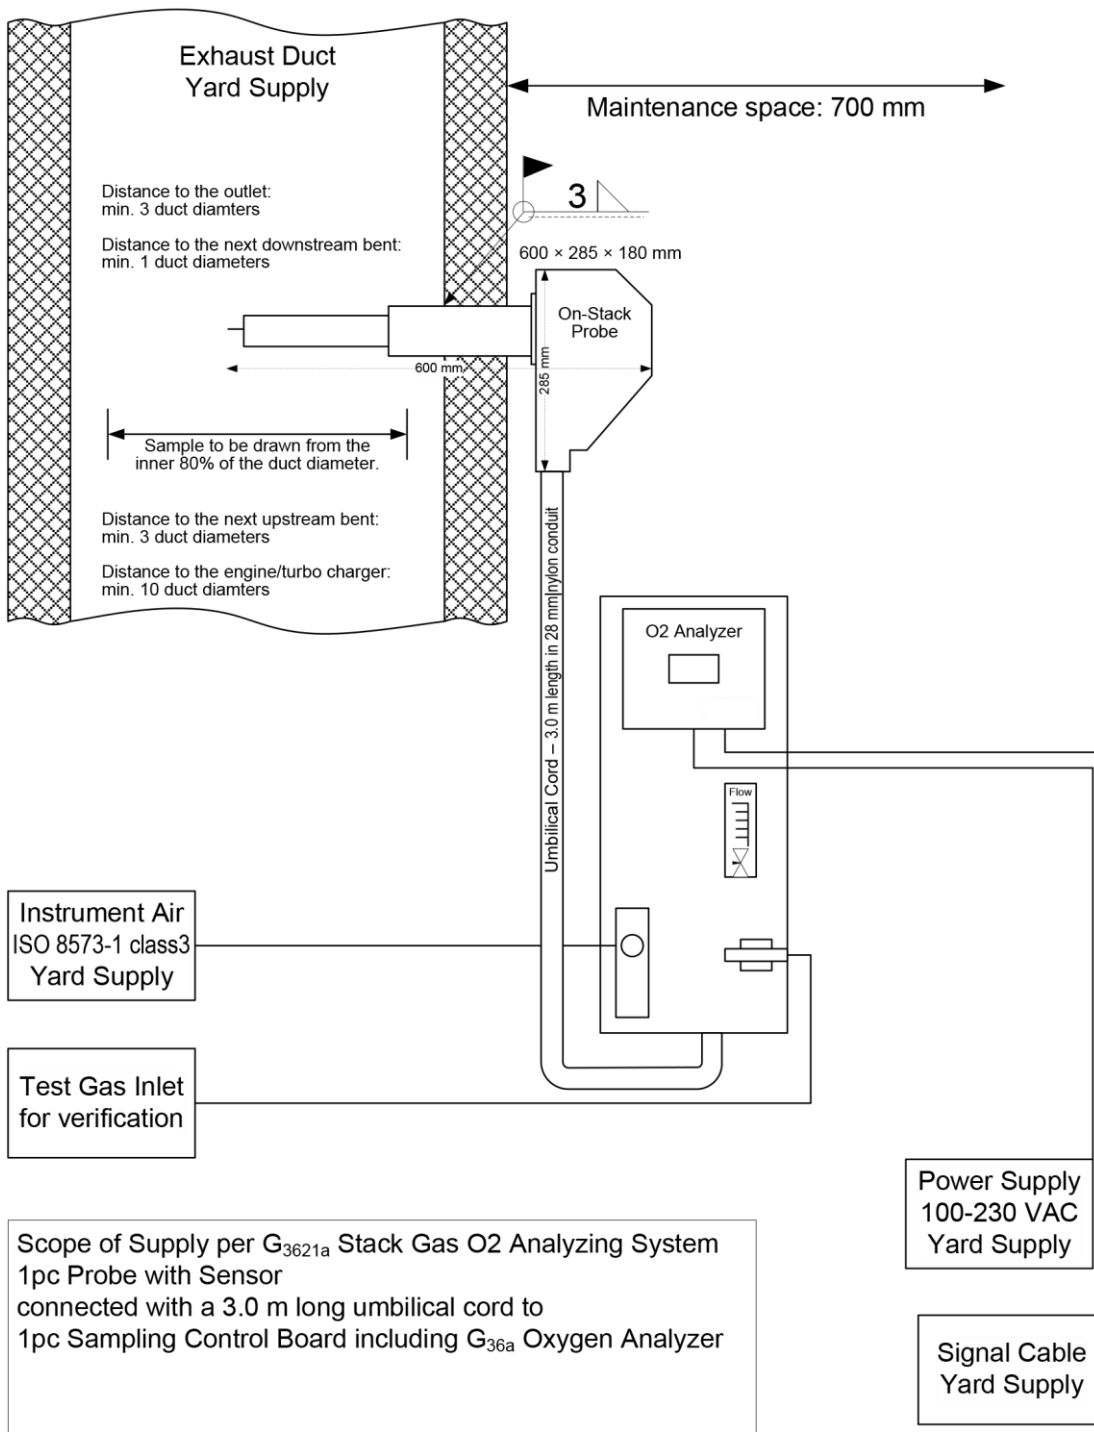
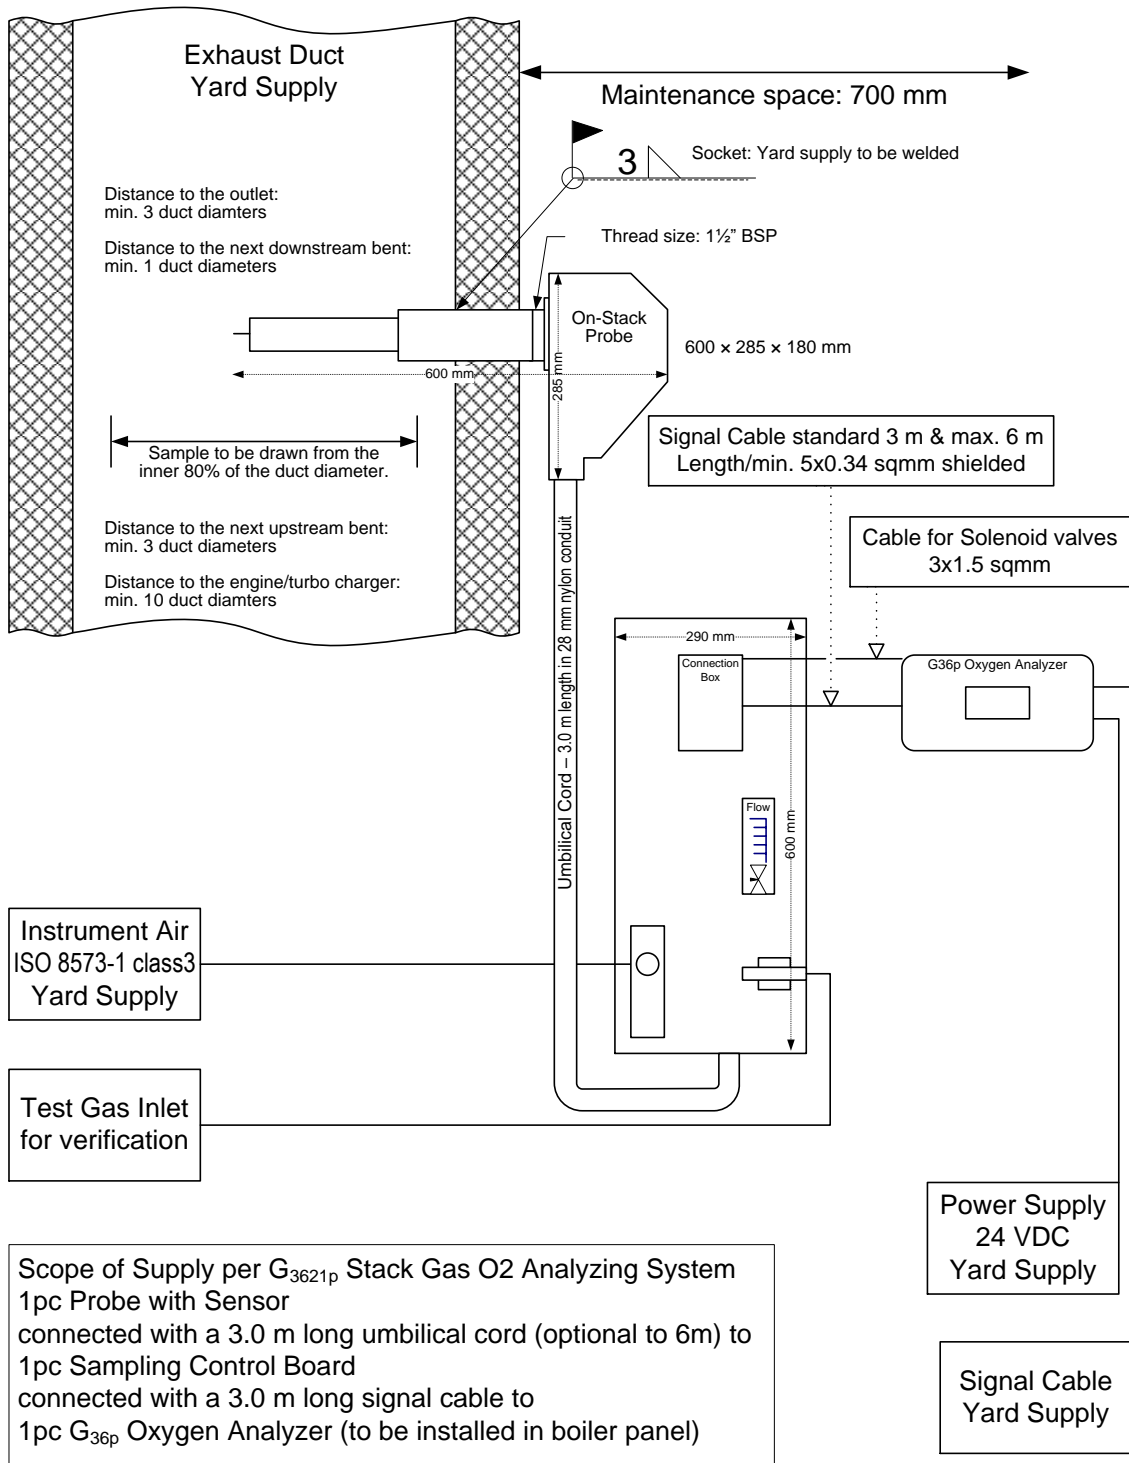

Figure 5-1: Installation Layout of the G3621a with Welding Type Probe
Figure 5-2: Installation Layout of the G3621p with Thread Type Probe
- It is recommended to place the diffusion probe as illustrated in Figure 5-1 and Figure 5-2 below. If you find it difficult estimating where to install the diffusion probe, please contact Green Instruments A/S for more instructions.
When mounting the probe on the stack, make sure that the back plate of the probe is mounted with the hose connection facing down and the probe protection house mounted in a vertical position of the stack. Please see Figure 5-1 and Figure 5-2 for the installation of the probes.